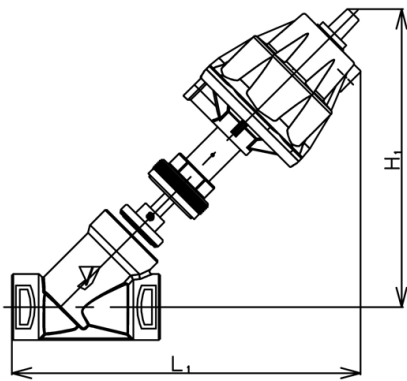

Fig. 8
* Failure to follow this notice prevents required operation at the time of maintenance. (See Fig. 8 and 9 below*1)
2. With air pressure on, remove the indicator cap and indicator (See Fig.8).